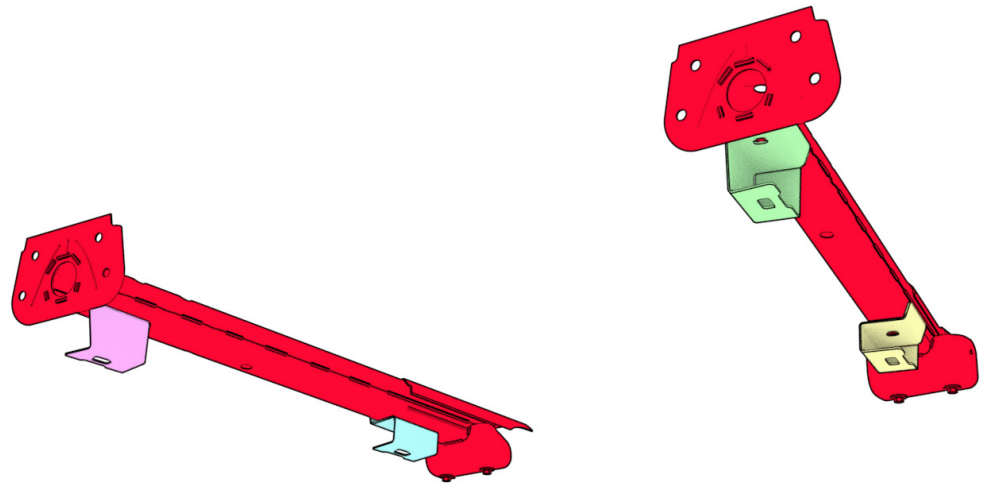

FIG 6
1.3 Position on the Vehicle: Fit each bracket up to the lower bracing arms located on the underside of the van (**FIG 6**).